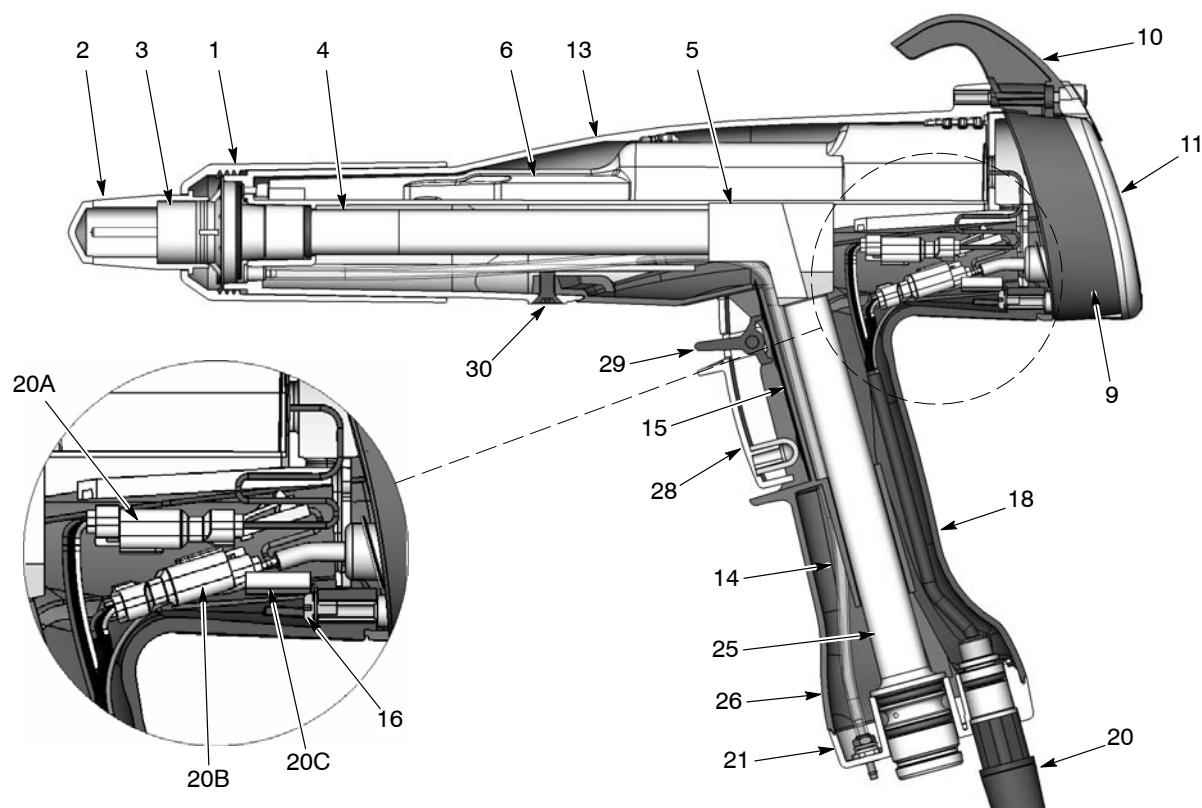

Figure 2 Section View of Spray Gun (item numbers in this section match item numbers in spray gun manual parts list)
1. See Figures 2 and 3. Unscrew the top and bottom screws (12) holding the bezel (11), hook (10) and display module (9) onto the gun body.
1. See Figure 2. Unscrew the nozzle nut (1) and remove the nozzle (2) and electrode assembly (3) from the spray gun.